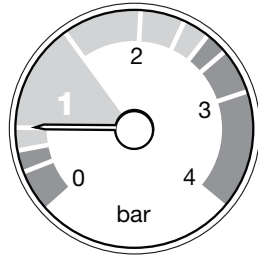

Fig. 5
2. It may be necessary to repressurise the system occasionally (Fig. 5). A filling device (the filling loop) will be fitted on the system. If you are unsure of its position, or cannot identify it, consult the installer who fitted the boiler.